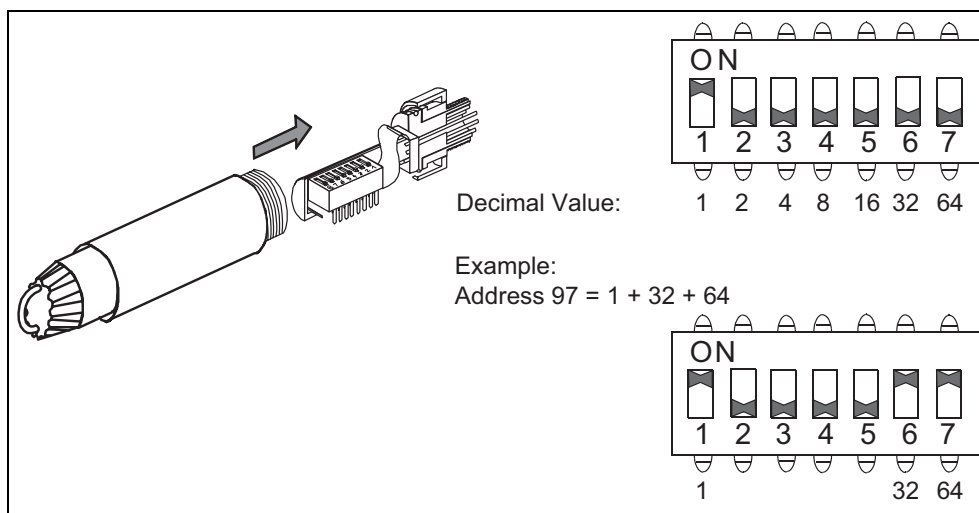

Figure 3-4 PROFIBUS Identification Plug
1. Unscrew the cover of the identification plug. See Figure 3-4 below.